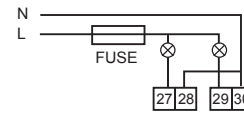

Fig.6-14
• The connection is described in Fig.6-14 .